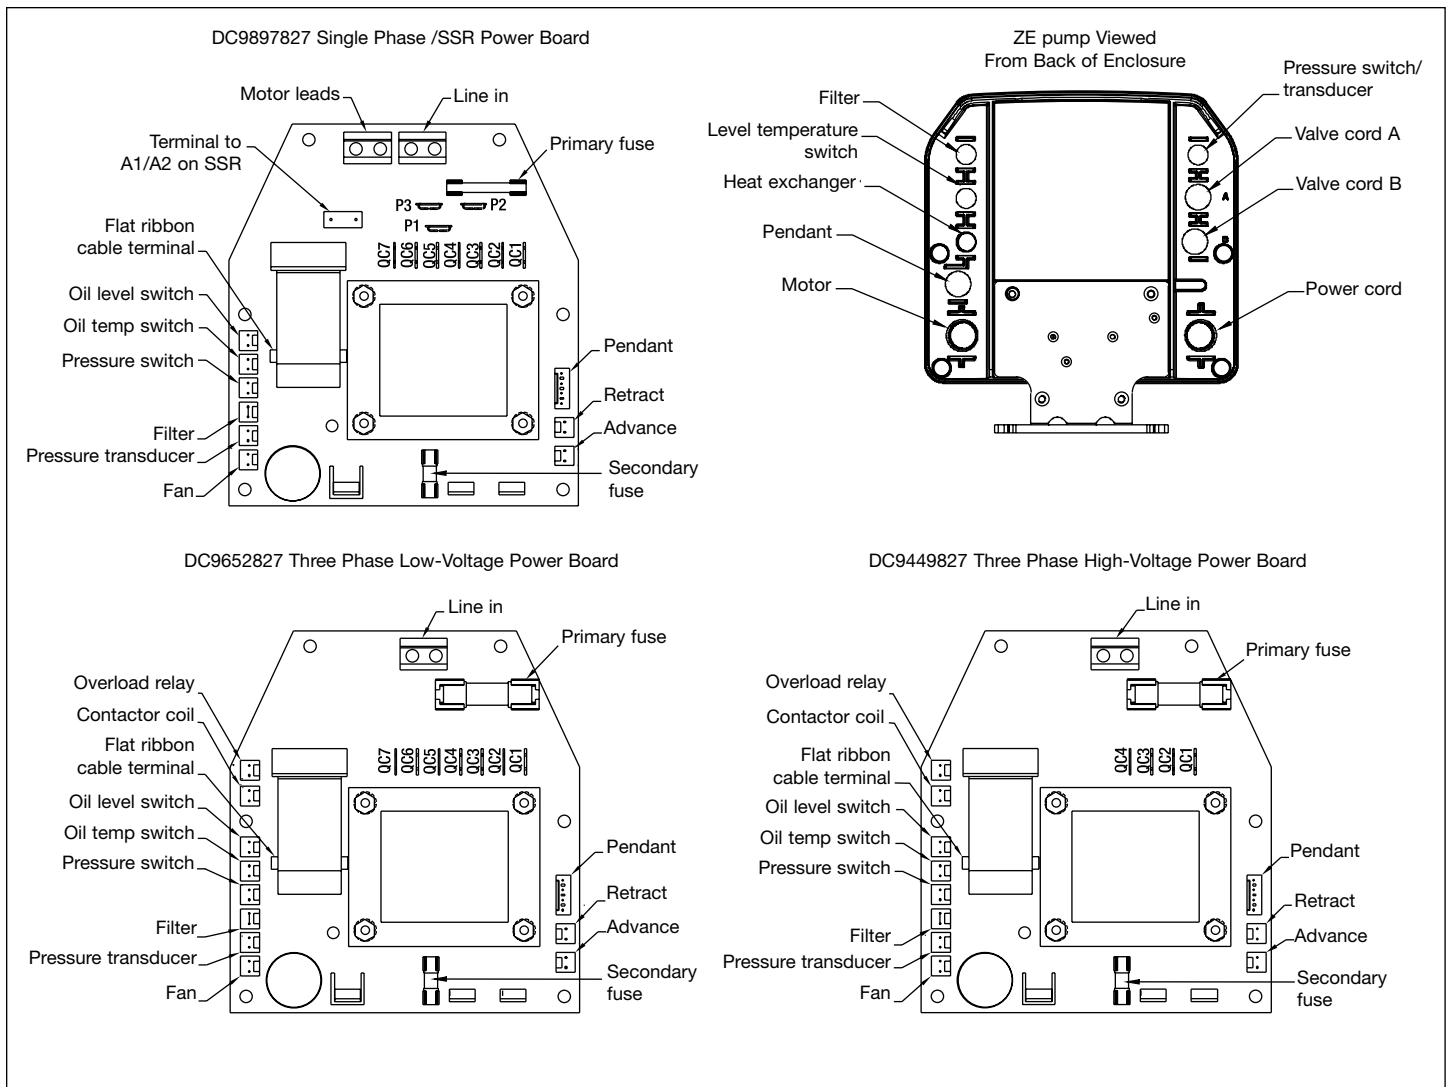

Figure 10, Electric Power Board Configuration
The pressure transducer, heat exchanger, level / temp switch, pendant / foot switch, and valve solenoids (A) and (B) are supplied with connectors that plug into the proper plug-ins found on the electrical power board (Figure 10).
Disconnect unit from power supply before opening electrical box. Remove LCD half and one small hole plug from back panel. Route wire through back panel, connect to power board (see figure 10), and secure strain relief. Install shroud half.